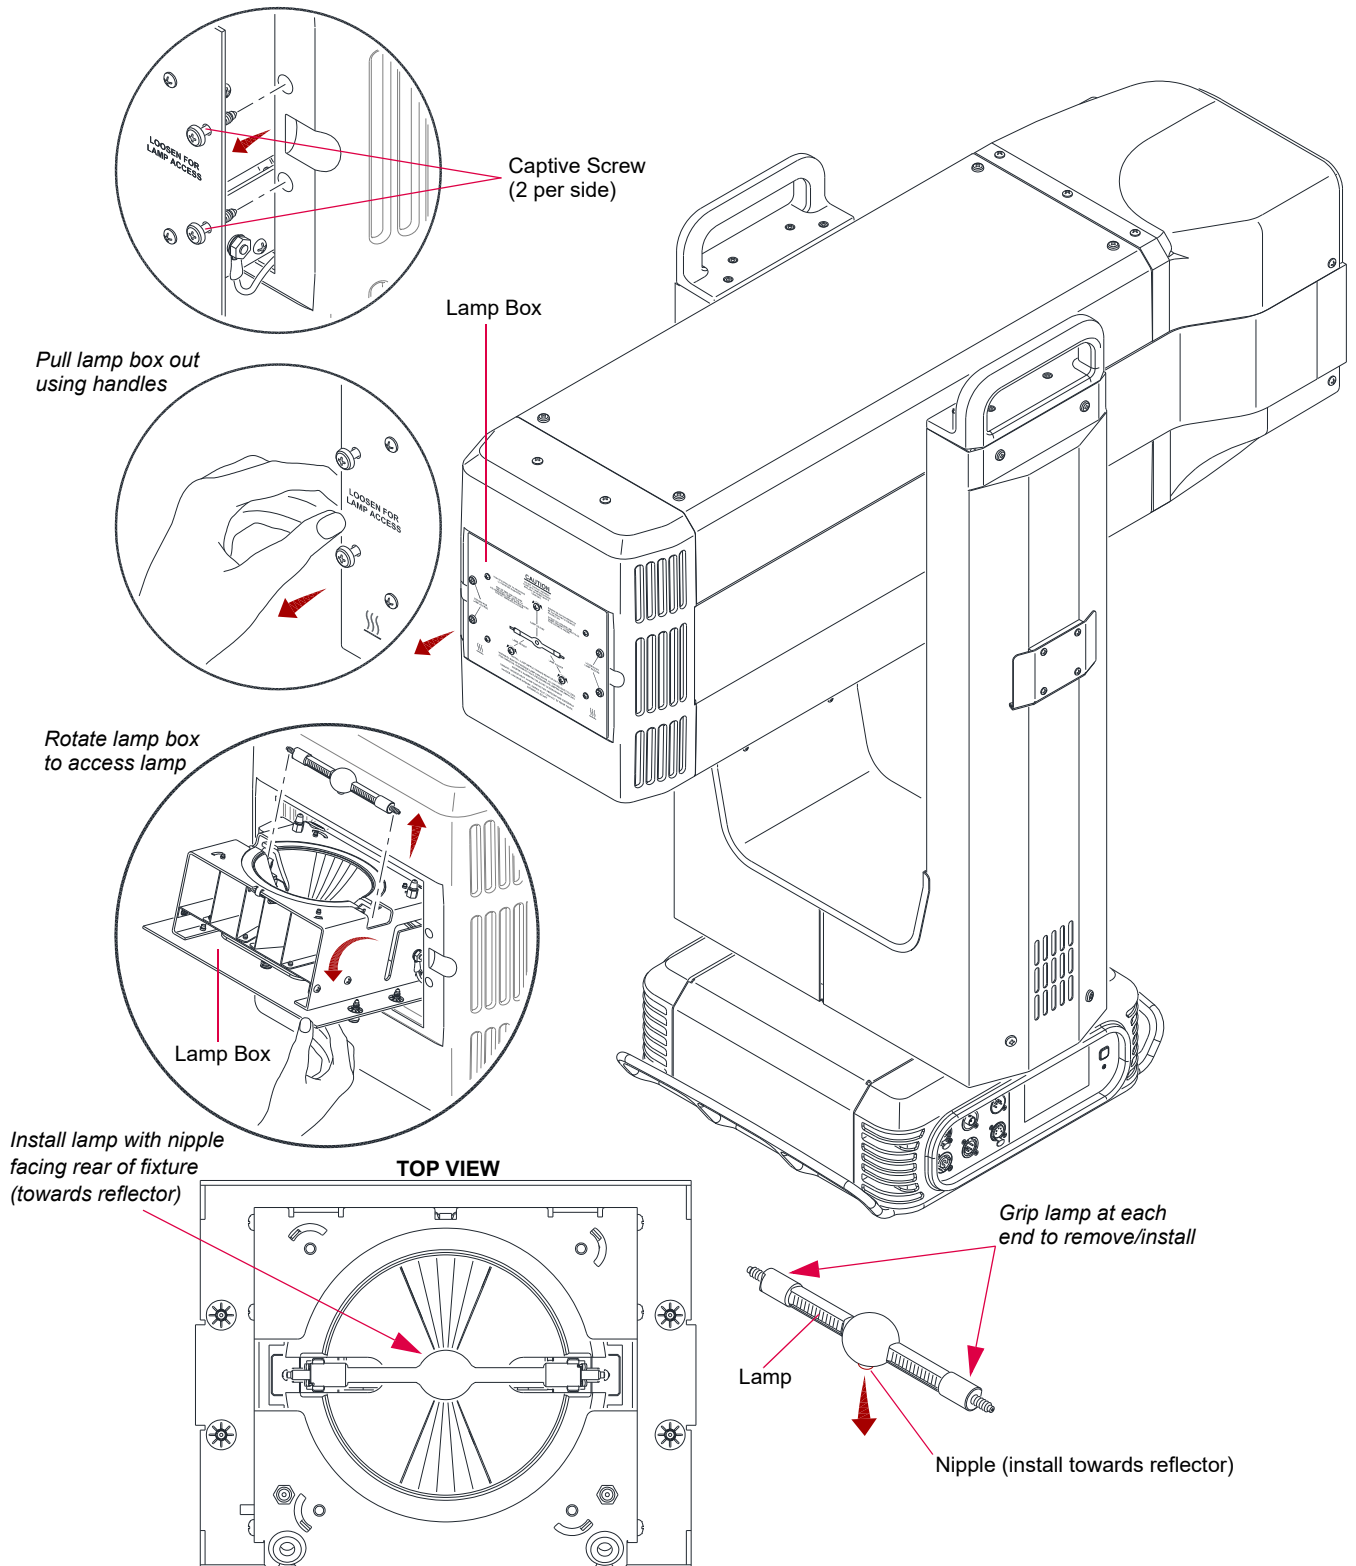

Figure 3-13: Replacing the Lamp
- Step 3. At lamp access door, loosen four captive screws (two on each side). Refer to **Figure 3-13** on next page.